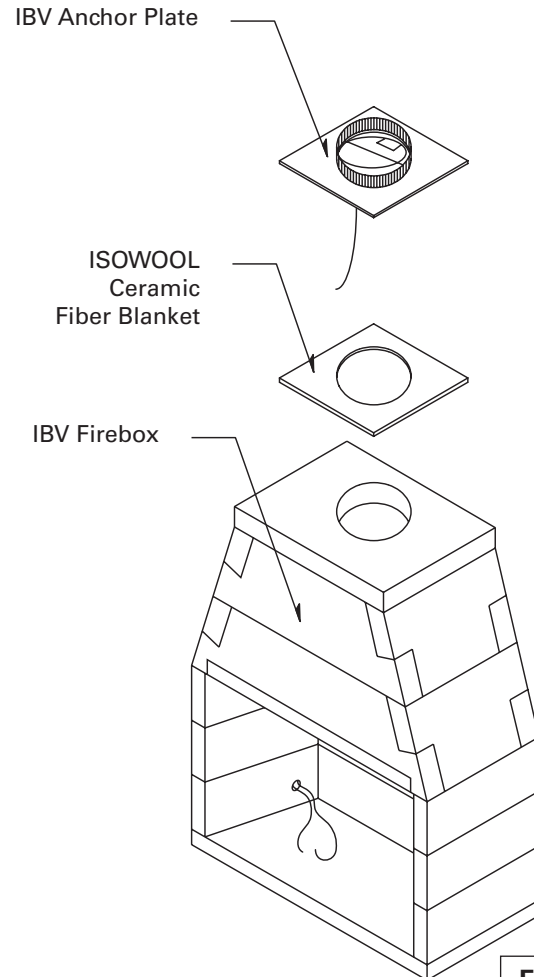

FIGURE 24
NOTE: The selected, approved chimney manufacturer must provide the masonry anchor plate with down draft diverter designed to fit their flue system. **(Figure 24)**
Secure the Anchor Plate with four (4) masonry anchors. **(Figure 24)** If the Anchor Plate with Damper is installed the damper should swing freely. When the chain is pulled down, the damper should close (horizontal position). When the chain is released (no weight on the chain), the damper should swing open (vertical position).
Drywall can be placed directly in contact with the front of the BVETTO smoke dome. **(Figure 24)** With the Isokern firebox/smoke dome set flush with the interior face of wall framing, drywall can be hung on the framing members and pass across the face of the BVETTO smoke dome and in contact with it.